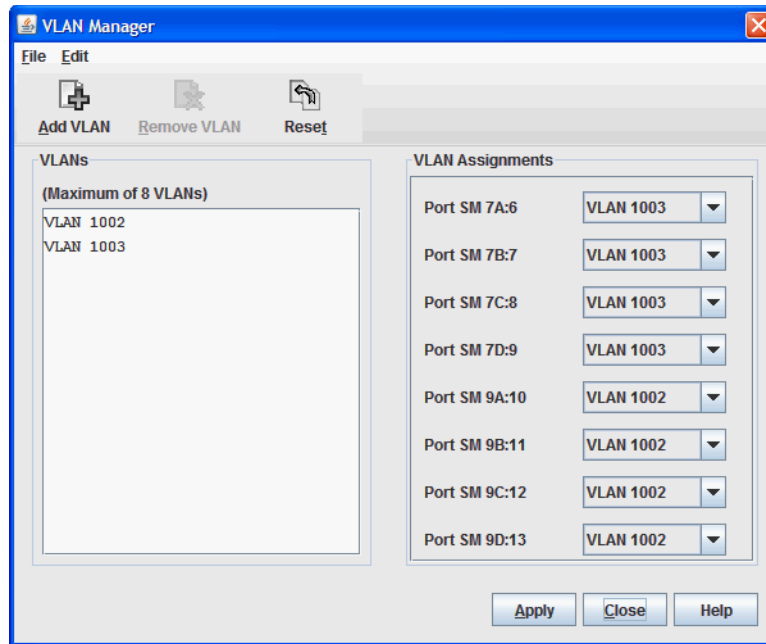

Figure 10-4 Virtual Fabric Extension Module VLAN Manager
3. In the VLAN Manager window (Figure 10-4), follow these steps: